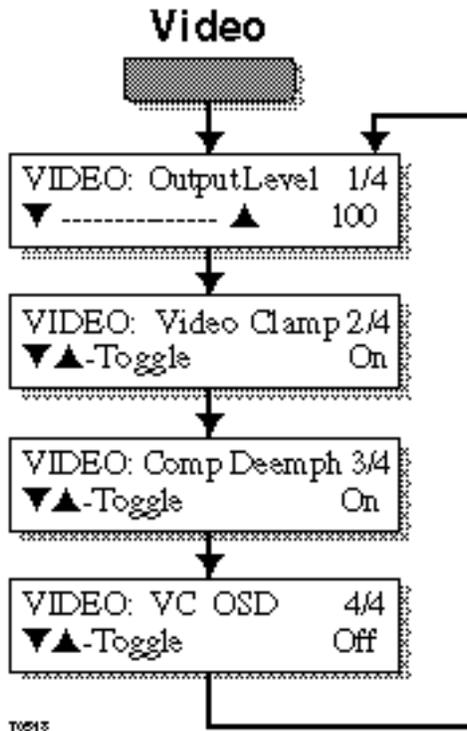

Figure 3-4. Video Submenus
The video submenus are selected by pressing the VIDEO key. Once selected, the submenus are sequenced each time the VIDEO key is pressed. The submenus are illustrated in figure 3-4 and described in table 3-7. Each submenu has a tag number located in the upper right corner that identifies the submenu sequence number.
1. Press the **VIDEO** key until the Output Level submenu is displayed (tag number 1/4 displayed in the upper right corner, see figure 3-4).